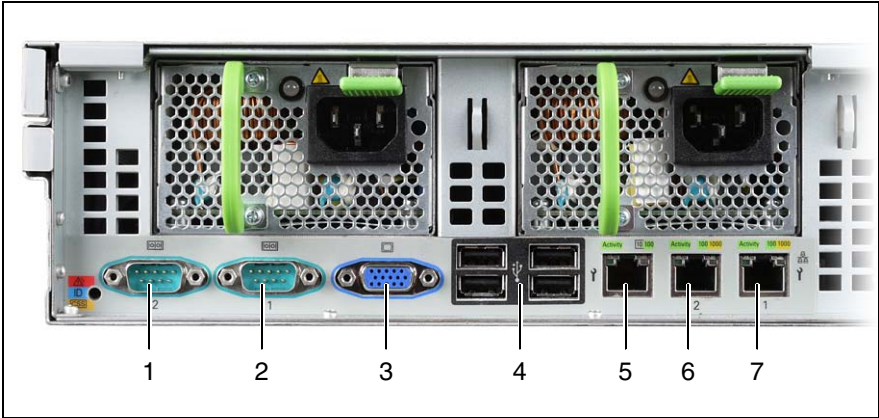

Figure 13: Connection panel on the rear
- Connect the monitor, keyboard and mouse to the standard connectors of the server (see table and figure 13 on page 60).